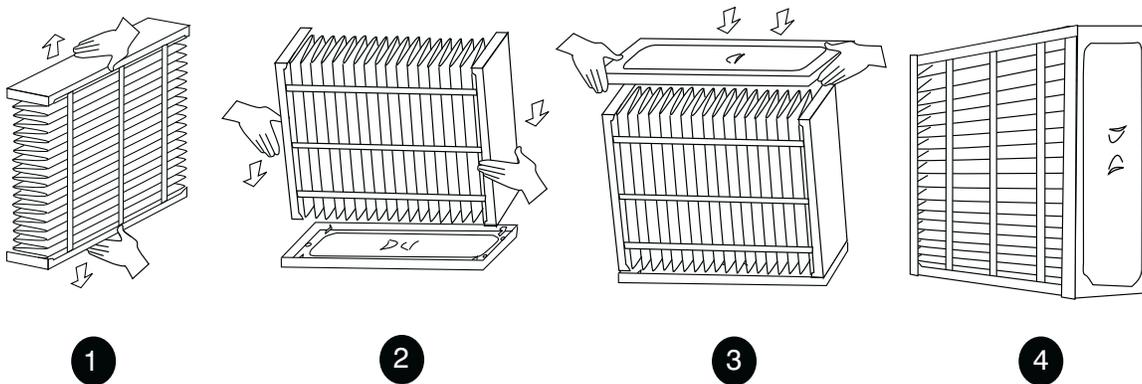

Fig. 8 - EZ-Flex Filter Assembly
7. Remove filter from box, assemble then place in cabinet. See Fig. 8.
4. Remove new filter from box and assemble. See Fig.8.